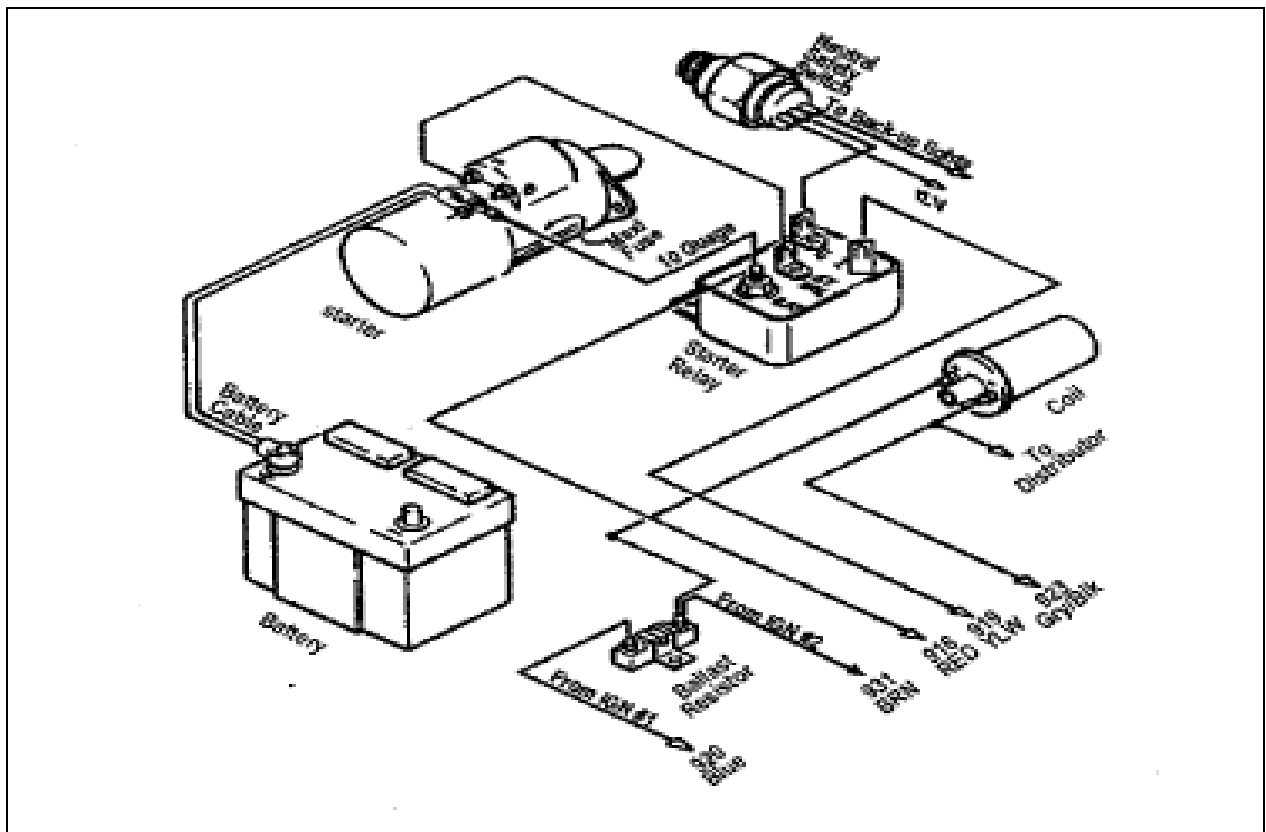

Figure 9-2A Mopar Ignition (Start/Run) System with Mopar switch
- 9.2.8** Connect a 14-gauge wire from the Starter Relay Ignition (I) terminal to the ignition coil side of the Ballast Resistor. This wire serves as a ballast resistor BYPASS during engine starting. You must add a diode (8 amp min., 100 PIV) to this wire as shown in **Figure 9-2A**. If you are not using a ballast resistor, do not connect this wire.